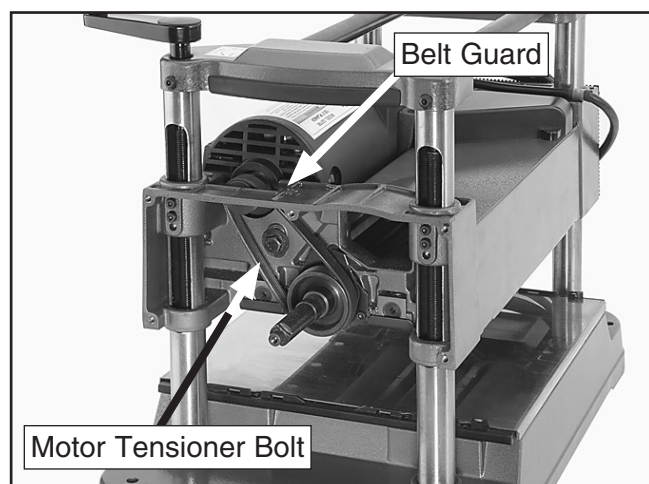

Figure 33. Fan housing removed and V-belt exposed.
6. Remove (2) M5-.8 x 10 cap screws that secure belt guard (see **Figure 33**).